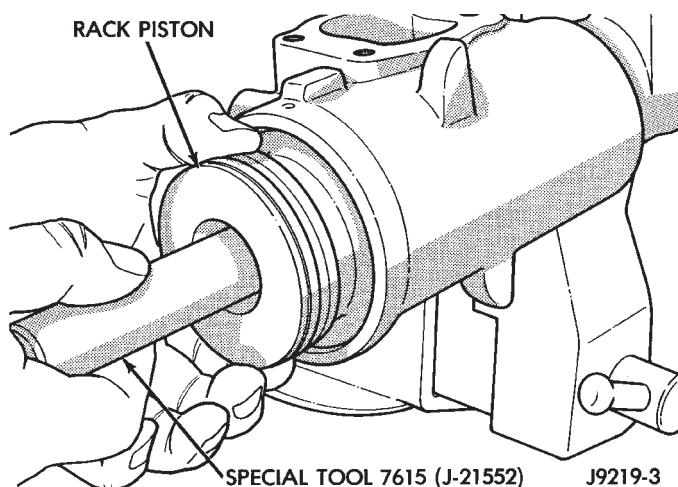
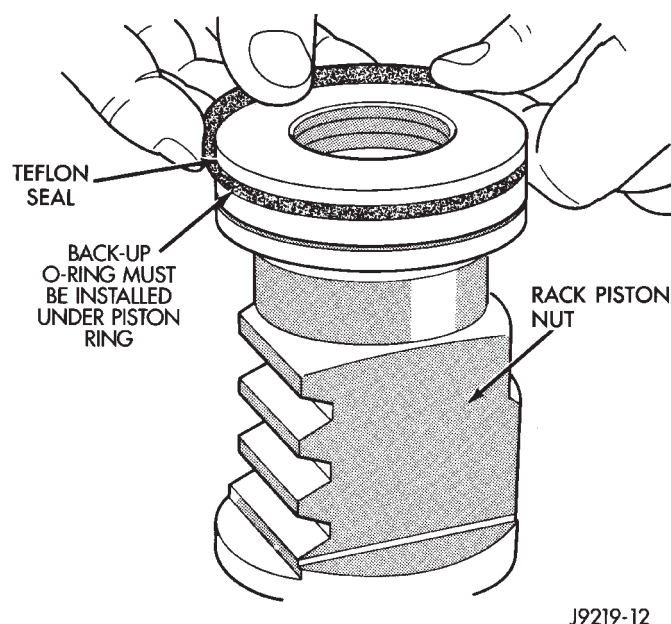

Fig. 30 Remove and Install Rack Piston
Fig. 31 Remove and Install Seal on Rack Piston
(5) Insert Arbor C-4175 (J-21552) into bore of rack piston (Fig. 30). Hold tool tightly against worm shaft while turning the stub shaft **COUNTERCLOCKWISE**.
(6) Remove the rack piston, rack balls, and tool together from housing.
(7) Remove valve. Refer to Valve Replacement in this section.
(8) Remove worm shaft.
(9) Remove thrust bearing and races.
(10) Remove tool from rack piston.
(11) Remove rack piston balls.
(12) Remove screws, clamp and ball guide.
(13) Remove teflon ring and O-ring seal (Fig. 31).